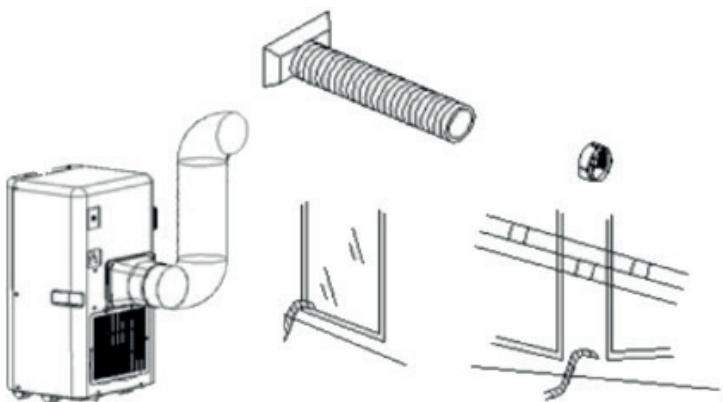

Fig. 7
2. Insert the square fixing clip into the openings on the back of the air conditioner (Fig. 7).